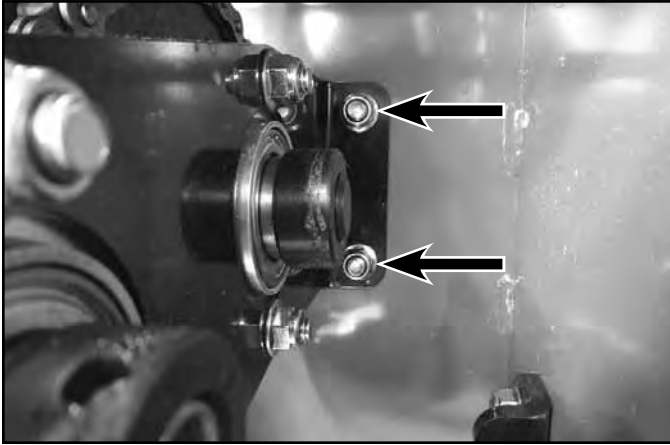

Fig. 101
11. Remove the bolts securing the bearing plate to the top of the deck (Fig. 101).